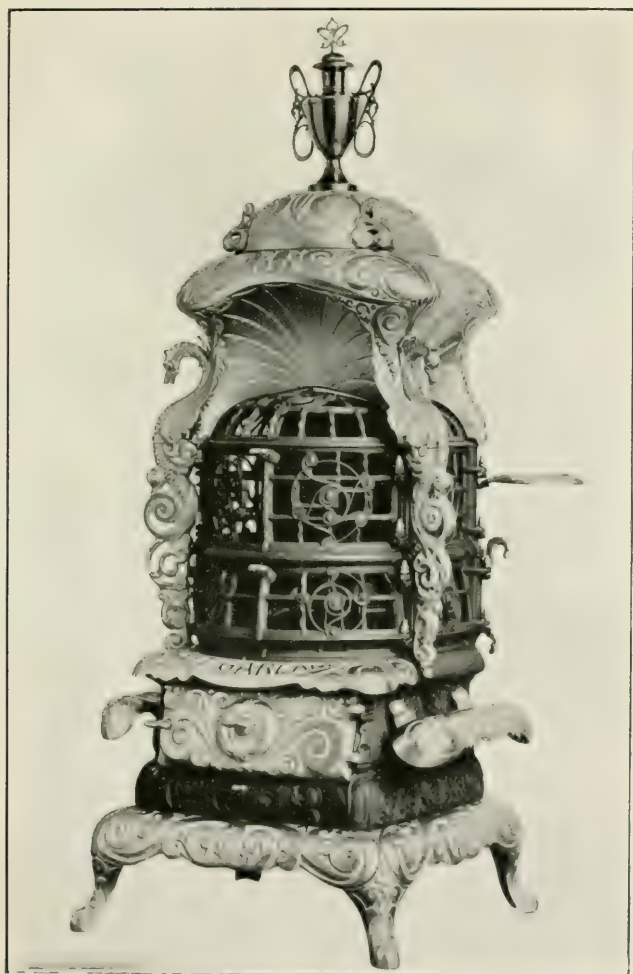

FIG. 11. See page 258
**Preparation** to paint the black portions with what is commonly known as "flat black," a paint which can be secured at any paint store, and gives a uniform fine-grain dull surface. If a little more of the gray tone is desired, a little white can be added to the flat black which will give more brilliancy to the iron. The trimmings should be gone over thoroughly with a ball of soft putty, kept soft with olive oil or castor oil. If you have large, plain surfaces to be treated with the putty, you can use a small printers' roller to advantage. With it roll out the putty much as a cook rolls out a batch of dough, then go over the metal with the roller, and a deposit of the oil from the putty will be left on the metal. Repeating this process and overlapping the strips, you will cover the surface quickly and uniformly. The streaks where the overlapping occurs can be blended easily with a tuft of soft absorbent cotton. Where there is lettering in the trimmings, which should stand out in good contrast, it is well to use the printers' roller with the flat black paint over these raised letters, and allow it to dry, before applying the putty. After the putty has been patted on, it can be easily wiped off where it smears over this black, and the results will be as seen in the Art Garland Stove shown in Fig. 11.